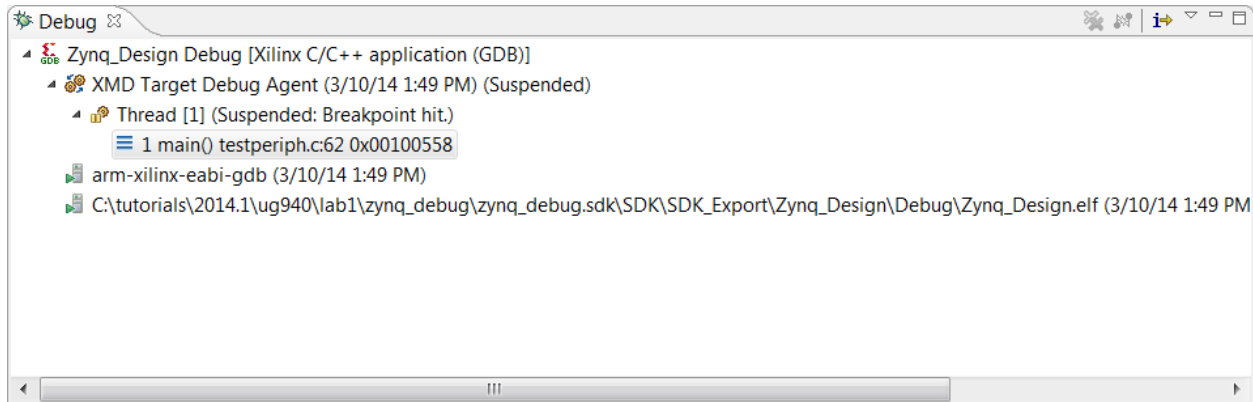

Figure 38: Processor Core to Debug
12. In the **Debug** tab, expand the tree to see the processor core on which the program is running (**FIGURE 38**).